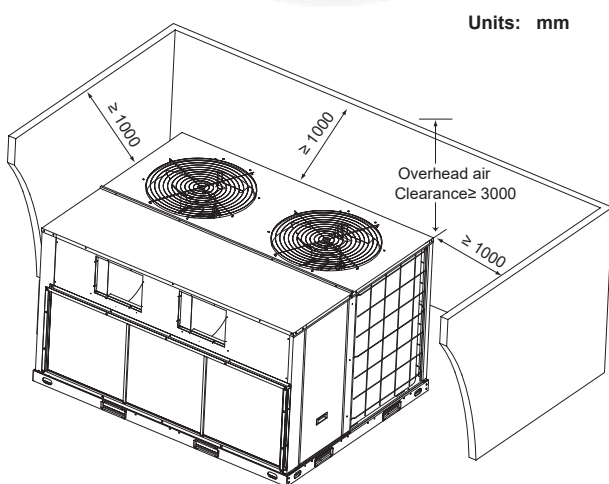

Fig.4-1
- The recommended clearances for single-unit installations are illustrated in Fig. 4-1. These minimum requirements are not only an important consideration when determining unit placement, but they are also essential to ensure adequate serviceability, maximum capacity, and peak operating efficiency.